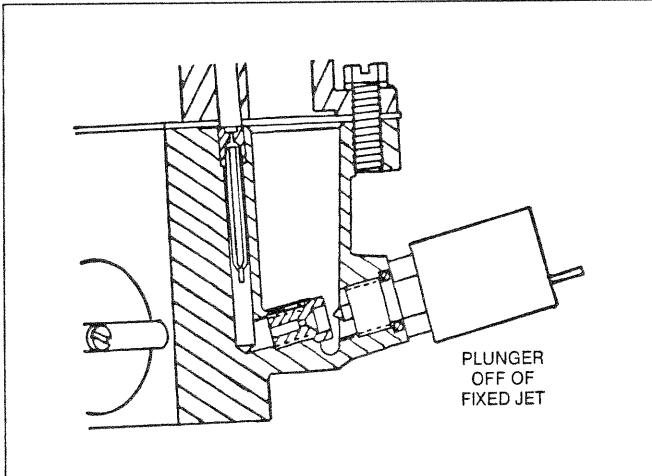

Figure 169. Solenoid Valve Open (Typical)
- When ignition switch is set to "On" or "Run" position, the solenoid plunger moves away from the fixed jet to allow normal fuel flow (Figure 169).